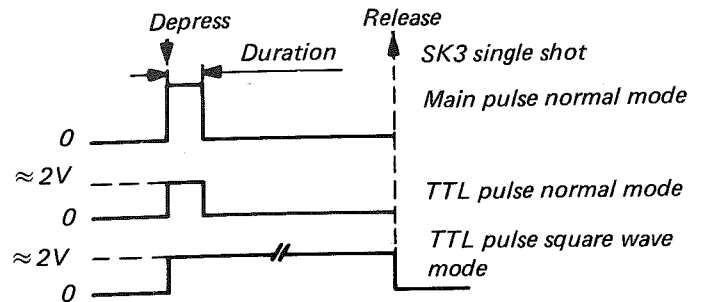

Fig. 6.4. Single shot.
- Note that one single pulse is now generated similar to fig. 6.4. Its duration, amplitude etc. are set with the front panel controls.
- Depress the SINGLE SHOT switch and observe a single pulse at TTL levels and set DURATION. Refer to fig. 6.4.
- Depress the SINGLE SHOT switch and note that the single pulse at TTL OUT remains as long as the switch is depressed. Set DURATION does not influence. Refer to fig. 6.4.